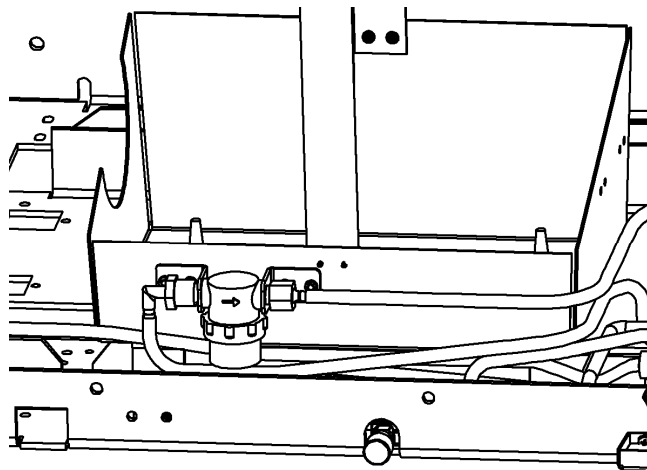

Figure 4-3
2. Locate the filter, which is attached to the front of the waste tank support bracket as shown in Figure 4-3.